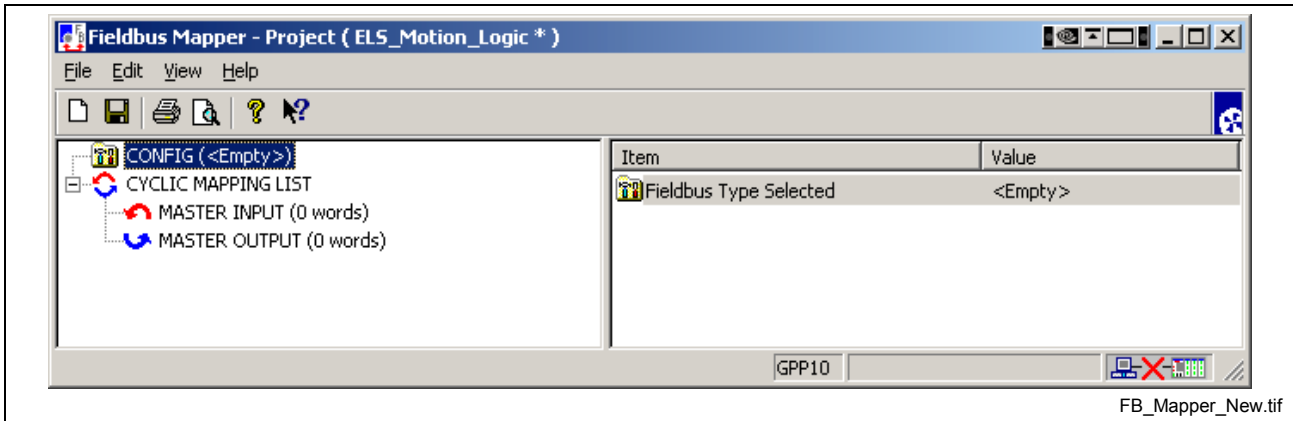

Fig. 7-129: FBMapper – Project Window
2. Select **Commission** ⇒ **Fieldbus Mapper**. The main Fieldbus Mapper window is displayed (refer to Fig. 7-129 below).